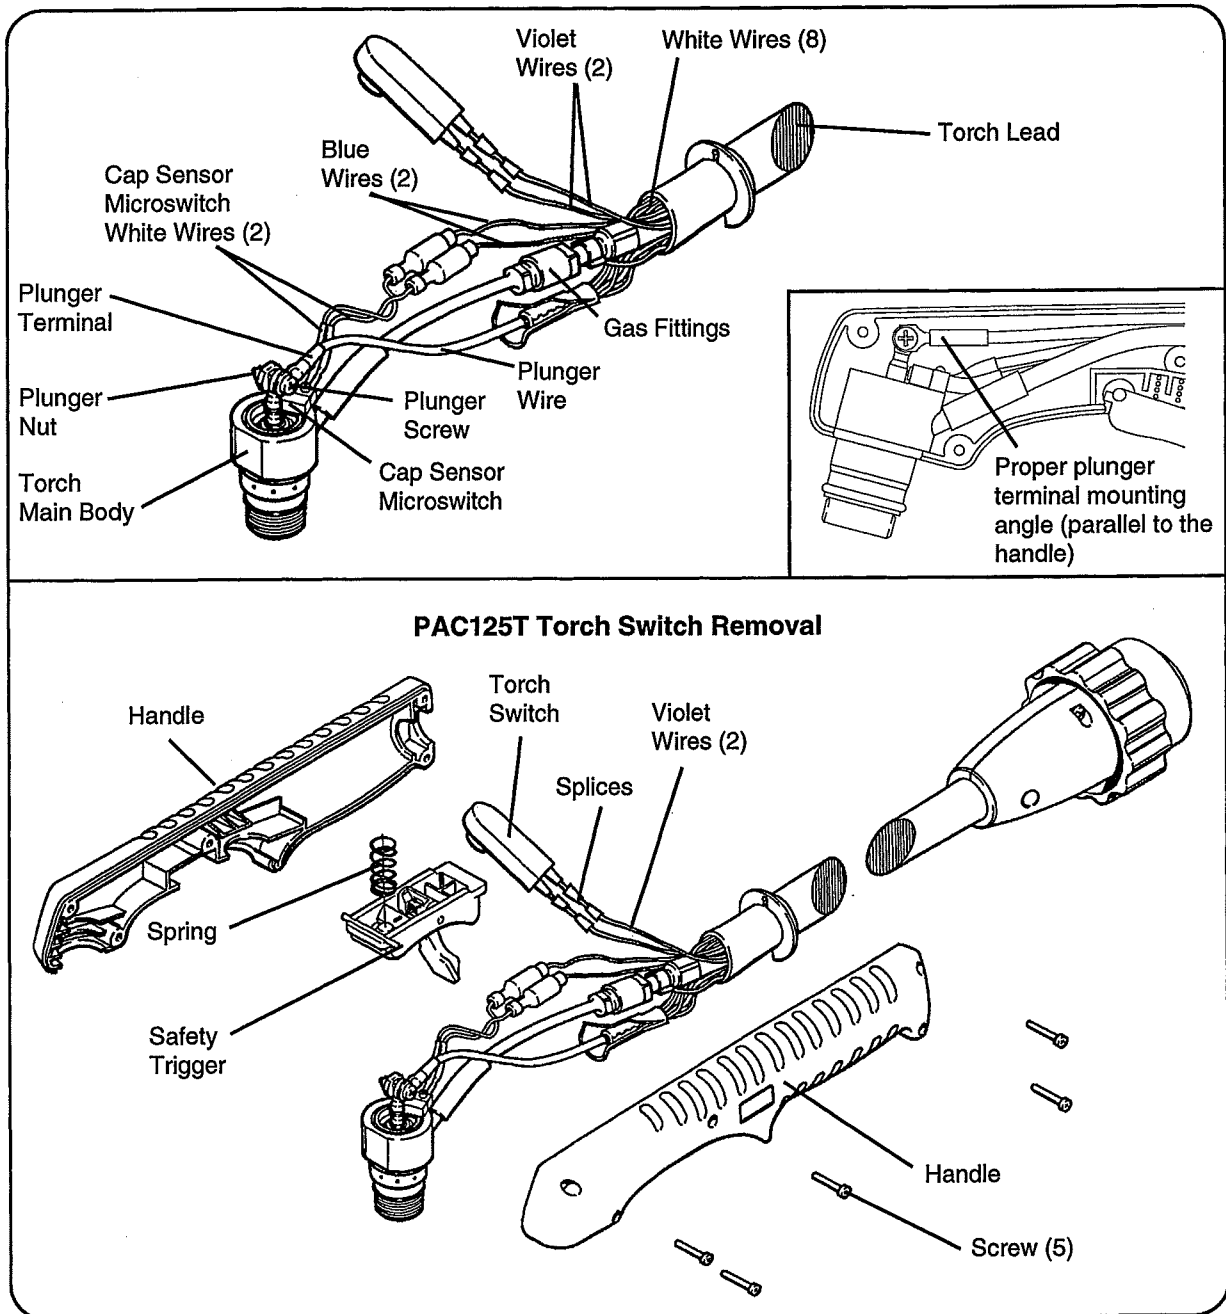

Figure 3-2 PAC125T Torch Parts Replacement
To remove and replace the torch main body, order the torch main body with cap-on sensor switch and refer to the following procedure and Figure 3-2.
6. Replace the new torch main body by reversing these instructions. Note: When connecting the plunger wire, be certain to keep the plunger wire terminal at the proper angle as shown in the Figure 3-2 inset. Tighten the plunger screw with 8 lb-in (9 kg-cm) of torque.
To replace the torch switch, order the torch switch repair kit and refer to the following procedure and Figure 3-2.